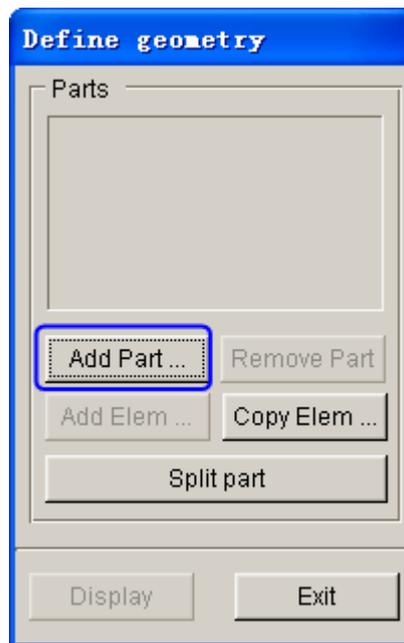

Figure 7.7 Define geometry dialog box
3. The DEFINE GEOEMTRY dialog box illustrated in Figure 7.7 is displayed.